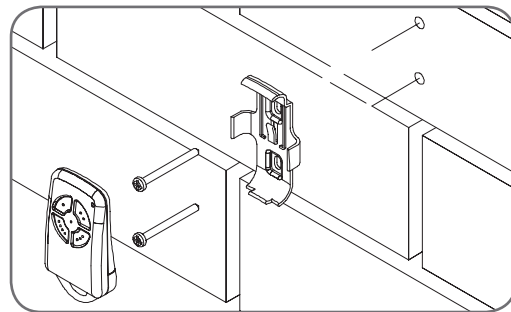

fig 33
1. Mount the holder in a location out of reach of children and convenient to the customer. (**Fig 33**). Make sure the door is visible from this location.